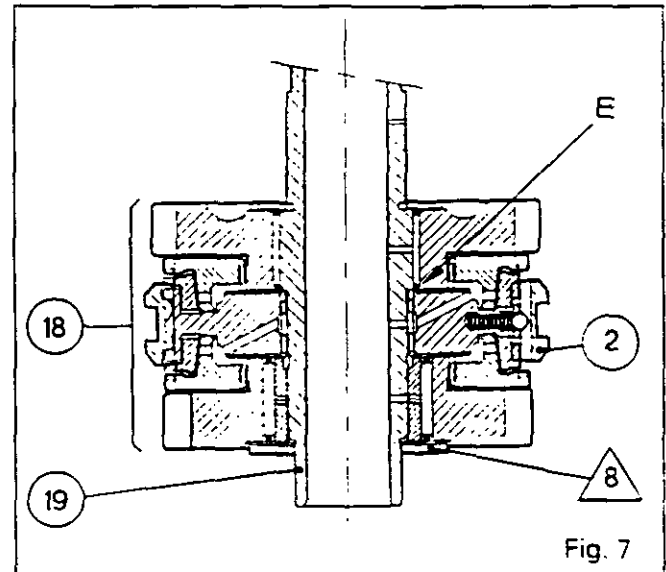

Fig. 7
36. Centre the washer /8\ . By the front bore of the unit, fit the secondary shaft (19) in synchromesh/gear assembly (18). Place recess "E" fully home on the synchromesh (2) (Fig. 7).
37. Position the cup (37) and the retaining plate (25) without the shims [1].
38. Fit and tighten screws (36) to a torque of 36 - 46 Nm.